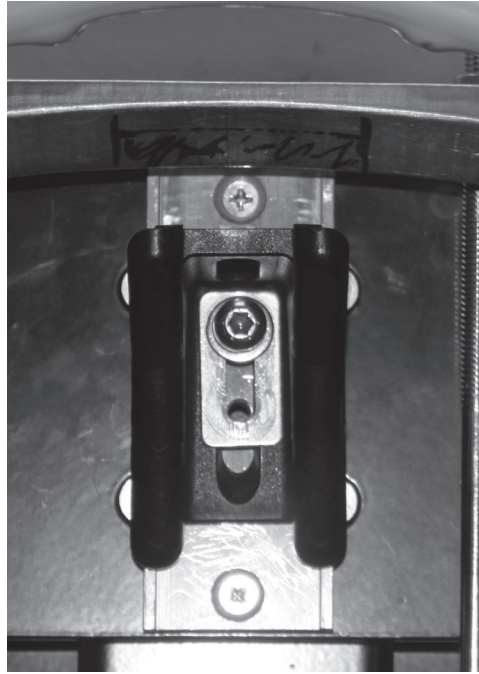
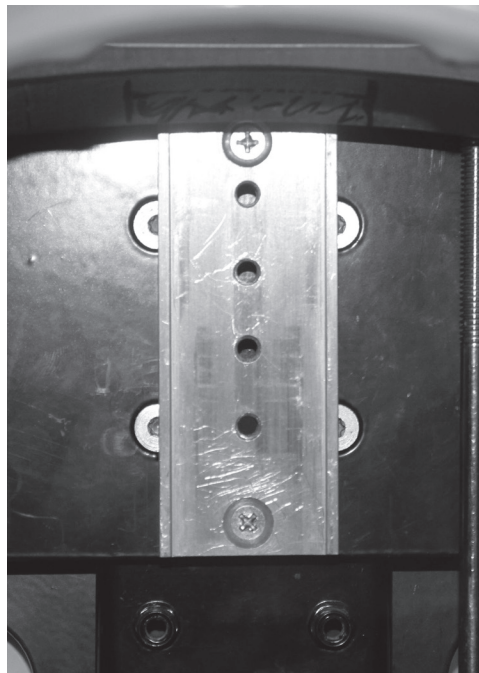

Figure 4
Figure 5
7. If you need to adjust the Upper Bracket Assembly to a different position, remove the T-30 torx head screw holding the Cylinder Locator Bumper (see Figure 4, below) and set the Cylinder Locator Bumper aside. Remove the (2) #2 Phillips head screws holding the Bumper Spacer Locator (see Figure 5, below), and set the Bumper Locator aside.